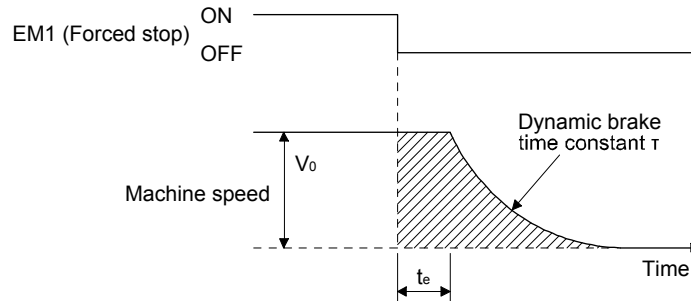

Fig. 4.3 Dynamic brake operation diagram
Fig. 4.3 shows the pattern in which the servo motor comes to a stop when the dynamic brake is operated. Use equation 4.2 to calculate an approximate coasting distance to a stop. The dynamic brake time constant  $\tau$  varies with the servo motor and machine operation speeds. (Refer to (1) (b) of this section.)